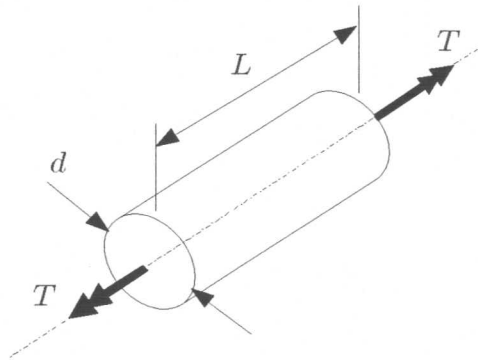

Figure 5.
5. A solid steel bar of circular section as shown in Figure 5 has diameter  $d = 1.5$  in., length  $L = 54$  in., and shear modulus of elasticity  $G = 11.5 (10^6)$  psi. The bar is subjected to torques  $T$  acting at the ends.